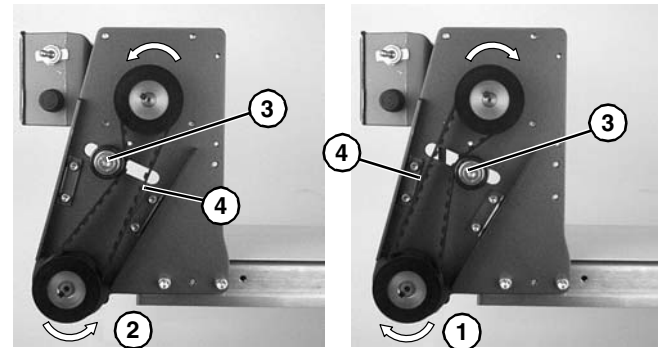

Figure 19
3. Depending on direction of conveyor belt travel (1 or 2 of **Figure 19**), position timing belt tensioner (**Figure 19, item 3**) as shown. Tension timing belt to obtain 1/8" (3 mm) deflection for 1 lb (456) grams of force at timing belt mid-point (**Figure 19, item 4**). Tighten tensioner screw to 106 in-lb (12 Nm).
5. Depending on direction of conveyor belt travel (1 or 2 of **Figure 19**), position timing belt tensioner (**Figure 19, item 3**) as shown. Tension timing belt to obtain 1/8" (3 mm) deflection for 1 lb (456 grams) of force at timing belt mid-point (**Figure 19, item 4**). Tighten tensioner screw to 106 in-lb (12 Nm).